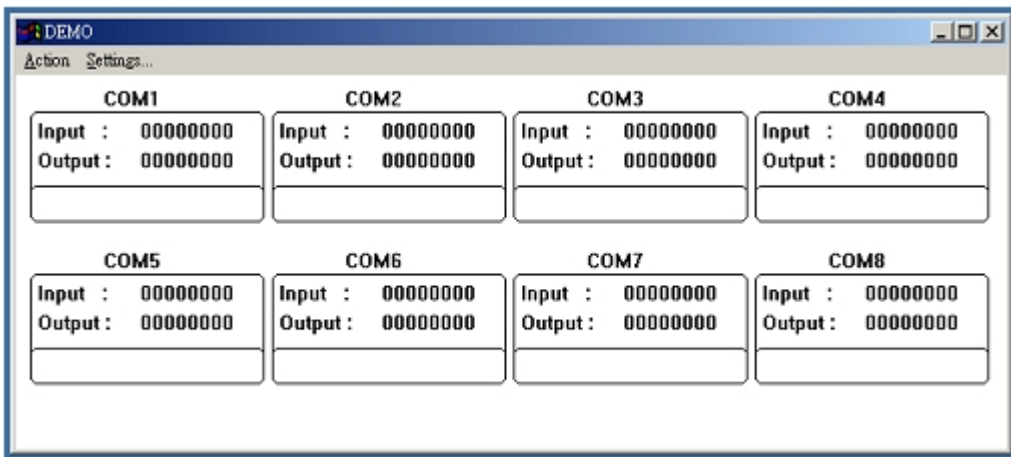

Fig.5
Step1. Run the “DEMO.EXE” utility (See the Figure 5).